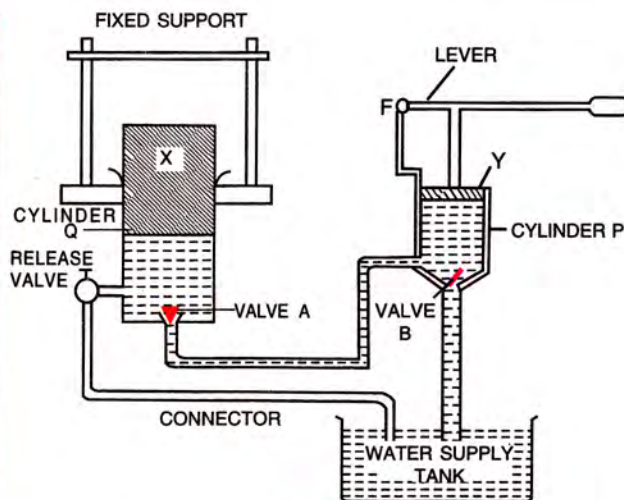

Fig. 4.12
30. The diagram in Fig. 4.12 shows a device which makes use of the principle of transmission of pressure.